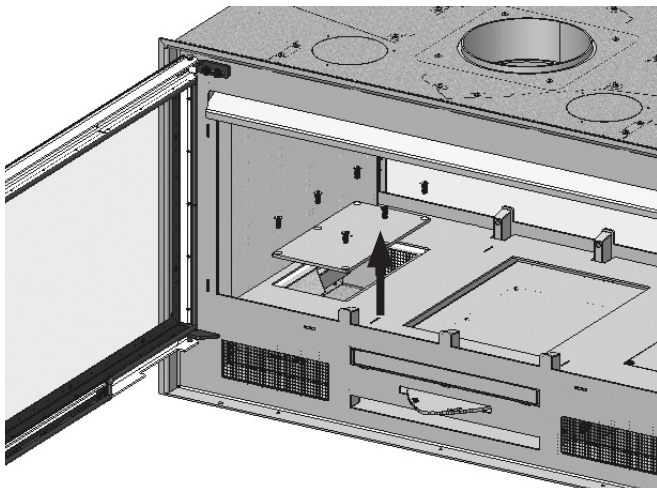

FIG. 4
2. Unscrew the screws of the side covers that give access to the fans located under the base. (Fig.4)